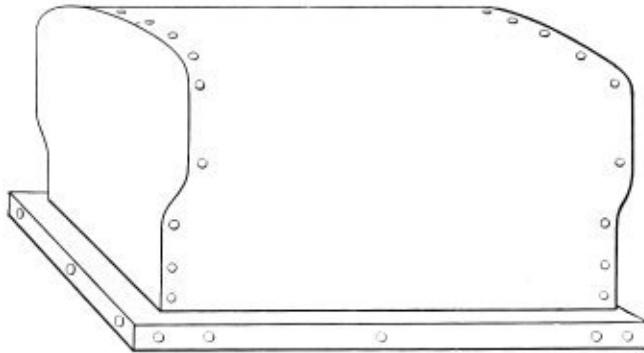

Fig. 1.—Straight Firebox
A.—In some cases no triangulation is needed to lay out a crown sheet. Thus, when the firebox is straight, as in Fig. 1, the layout will be a straight sheet. In case the crown sheet is in one piece with the sides, the whole sheet